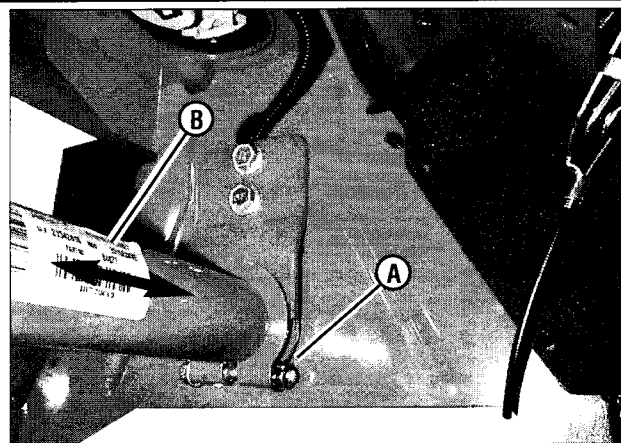

Figure 37: Mower belt adjustment
- Loosen the hardware (**A, Figure 37**) that secures the clamp that anchors the front frame assembly (**B**) to the rear main case.